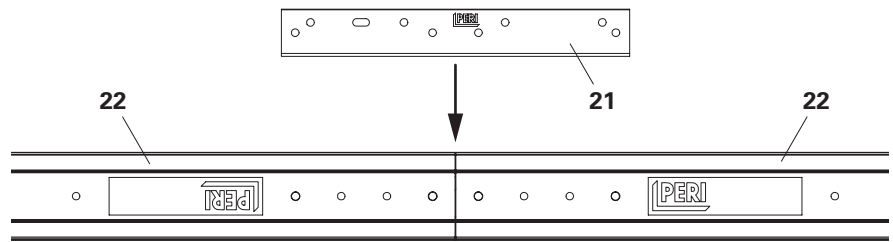

Fig. A6.03
2. Insert the Coupler MP MB 24 (**21**). (Fig. A6.03)